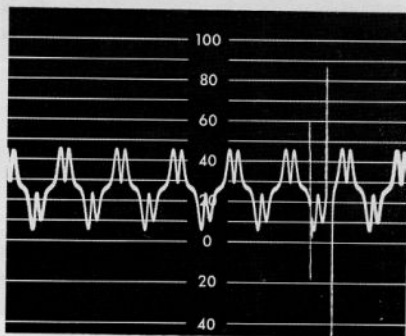

Figure 39—Simultaneous
15. Press the Play button and quickly adjust the CT PHASE control on Play panel for maximum level, while observing the CRO (See figure 39). Proceed quickly to step 16.